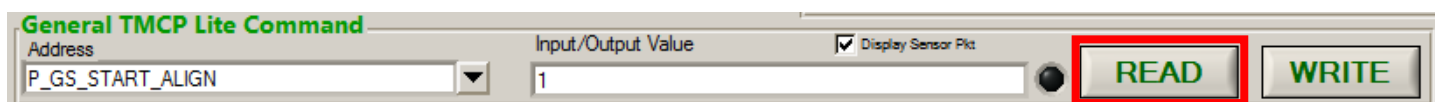

Figure 20 GS_START_ALIGN
- 2) Command the alignment software to calibrate the GS DDM by setting the Address box to “P_GS_START_ALIGN” and Input/output Value box to 1 and click “WRITE”.(Figure 20). The alignment software should measure and automatically store the gain values for the GS receiver 90 and 150 Hz tones (P_GS_DDM_CALIBRATION_FACTOR_90HZ and P_GS_DDM_CALIBRATION_FACTOR_150HZ), and the operating temperature measured during calibration (P_GS_CALIB_TEMP).